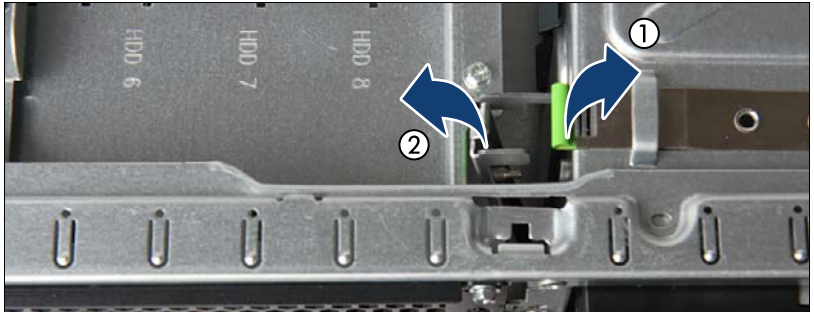

Figure 248: Removing the front panel module (rack systems)
- ▶ Insert the front panel module into its installation bay and carefully push in until the front screw hole on the front panel frame lines up with the centering pin on the locking bar (1).
- ▶ Close the locking bar until it locks in place (2).
**i** Unlocking and securing the front panel and accessible drives is illustrated by the example of tower servers. In case of rack servers, the accessible drive locking bar is located on the side of the drive bay (see figure 248).